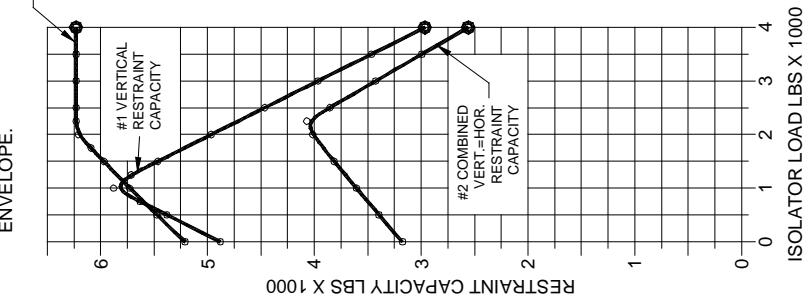
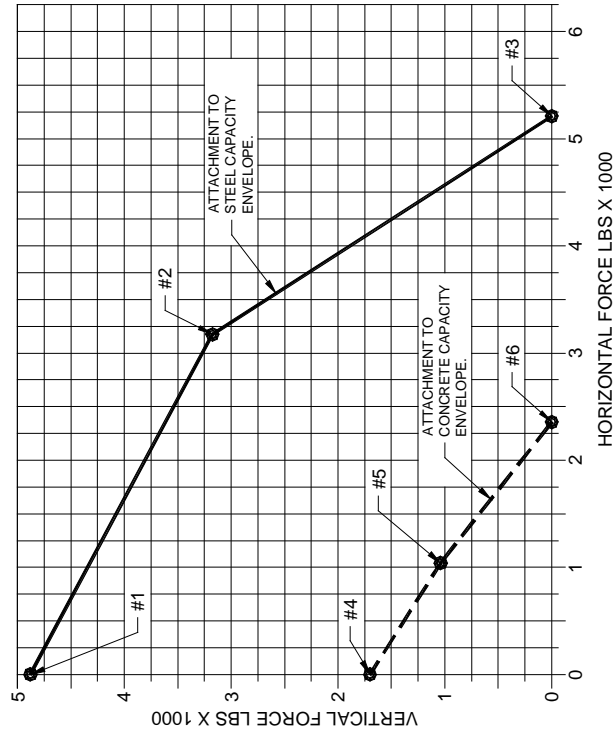
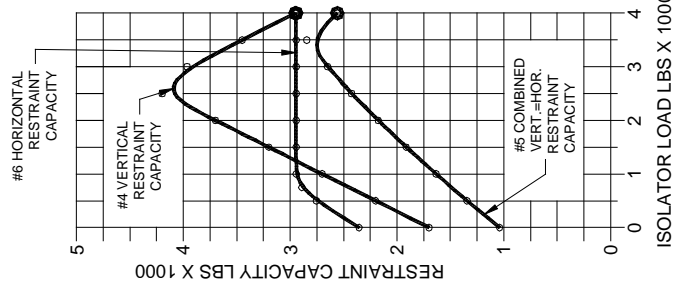

FIGURE 2
FIGURE 1
FIGURE 3
- 2.) DETERMINE WHETHER THE ATTACHMENT IS TO BE TO STEEL, SELECT FIGURE 2, OR CONCRETE. SELECT FIGURE 3.
- 3.) THE VERTICAL RESTRAINT CAPACITY @ THE LOAD DETERMINED IN STEP 1 IS READ FROM CURVE #1 (FIG. 2) OR CURVE #4 (FIG. 3) AND PLOTTED ON THE VERTICAL AXIS OF FIGURE 1.
- 4.) THE HORIZONTAL RESTRAINT CAPACITY @ THE LOAD DETERMINED IN STEP 1 IS READ FROM CURVE #3 (FIG. 2) OR CURVE #6 (FIG. 3) AND PLOTTED ON THE HORIZONTAL AXIS OF FIGURE 1.
- 5.) THE COMBINED RESTRAINT CAPACITY IS THE POINT WHERE VERTICAL & HORIZONTAL CAPACITIES ARE EQUAL. THE COMBINED RESTRAINT CAPACITY @ THE LOAD DETERMINED IN STEP 1 IS READ FROM CURVE #2 (FIG. 2) OR CURVE #5 (FIG. 3). DRAW A HORIZONTAL LINE FROM THIS VALUE ON THE VERTICAL AXIS, AND A VERTICAL LINE FROM THIS VALUE ON THE HORIZONTAL AXIS. THE INTERSECTION POINT IS THE COMBINED CAPACITY POINT FOR THE GIVEN APPLICATION.